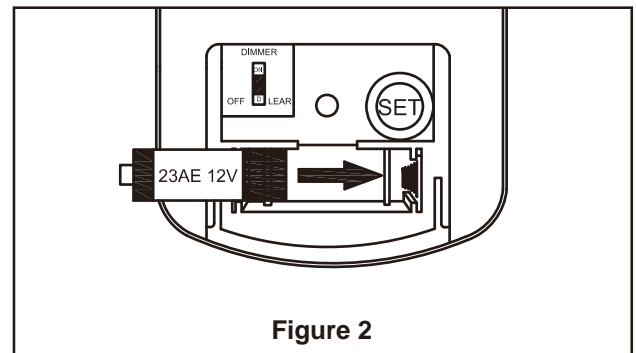

Figure 2
2. To make fan operational, install 23A/12V battery (included) in hand-held remote transmitter, with fan power off. Then follow the remote code setting process. (If not used for long periods of time, remove battery to prevent damage to transmitter). Store the remote away from excessive heat or humidity (Figure 2).